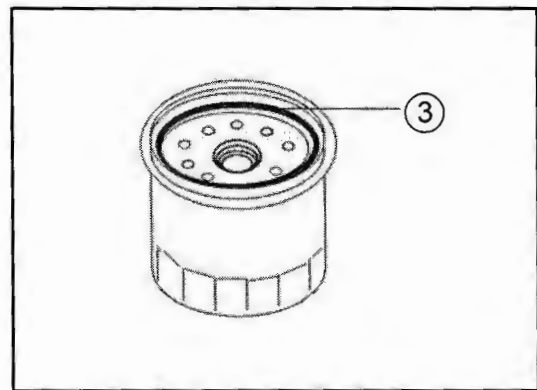

Fig. 38-3 - Filter Sealing Ring
- Apply a thin film of oil to sealing ring (3) of filter. (See Fig. 38-3).